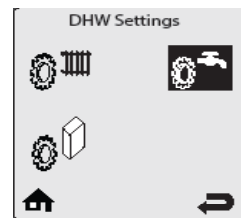

Fig. 9: DHW Settings
2. Go to boiler settings and click appliance setting, as seen in Fig. 9 and Fig. 10.